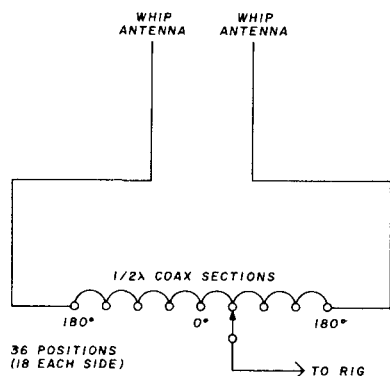
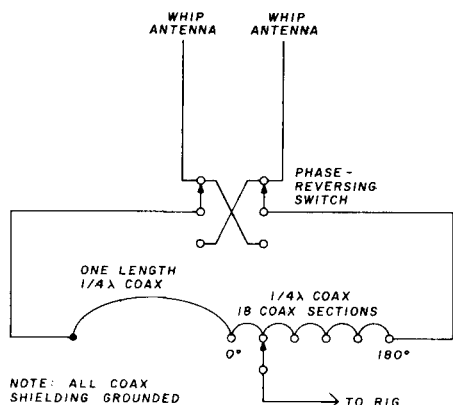

fig. 3. Simple and practical method for an antenna phasing system using a half-wavelength of coax cable with as many taps as desired.
fig. 4. System as shown in fig. 3 but with only one side of cable tapped and a dpdt switch used for phase reversal.
**Timing circuit.** The timing circuit, fig. 3, is based on the popular NE555 timer IC. A low input on pin 2, from either the comparator or the manual test switch, will start the timing sequence. U5 discharges C13 through pin 7. Normally C13 could begin to recharge through R29; but in this circuit, Q2 keeps C13 discharged as long as the input is low. Meanwhile the output, pin 3, is high, which causes CR3 to conduct, energizing brake-release
fig. 3. Timing-circuit schematic. C13, C14 see text. CR3-CR7 1N645A or similar. K1-K3 12 Vdc 185-ohm coil, 29 V 5A contacts (Potter & Brumfield R10-E1-X4-V185 or Allied TF154-CCCC-12V). LEDs are HP 4403.
A simple and practical method evolved in which there would be no unused section of cable. The entire half wavelength of coax would straddle the two antenna feedlines (fig. 3). At the centertap, the two antennas would be in phase (0 degrees) and at either end would be 180 degrees out of phase. It's apparent that as the tap is shifted, the amount of coax added to one feedline is automatically subtracted from the other. Of course, a further simplification is to tap one side of the line and use a dpdt lever switch for phase reversal (fig. 4).